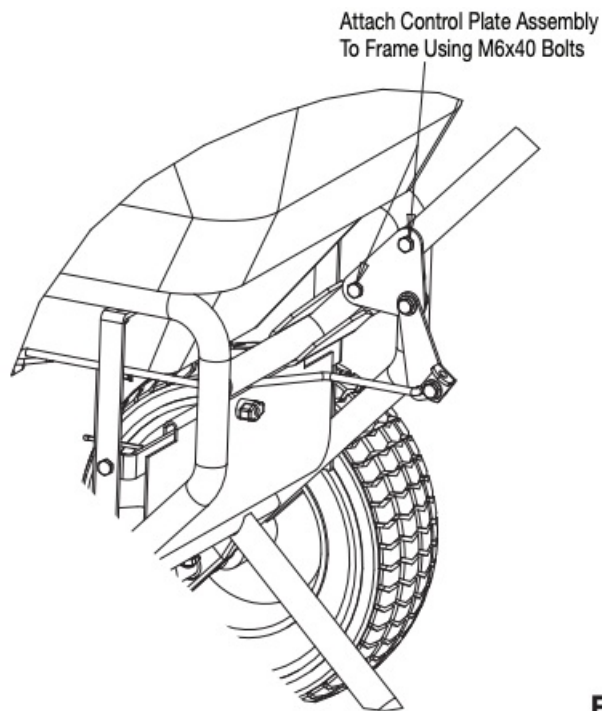
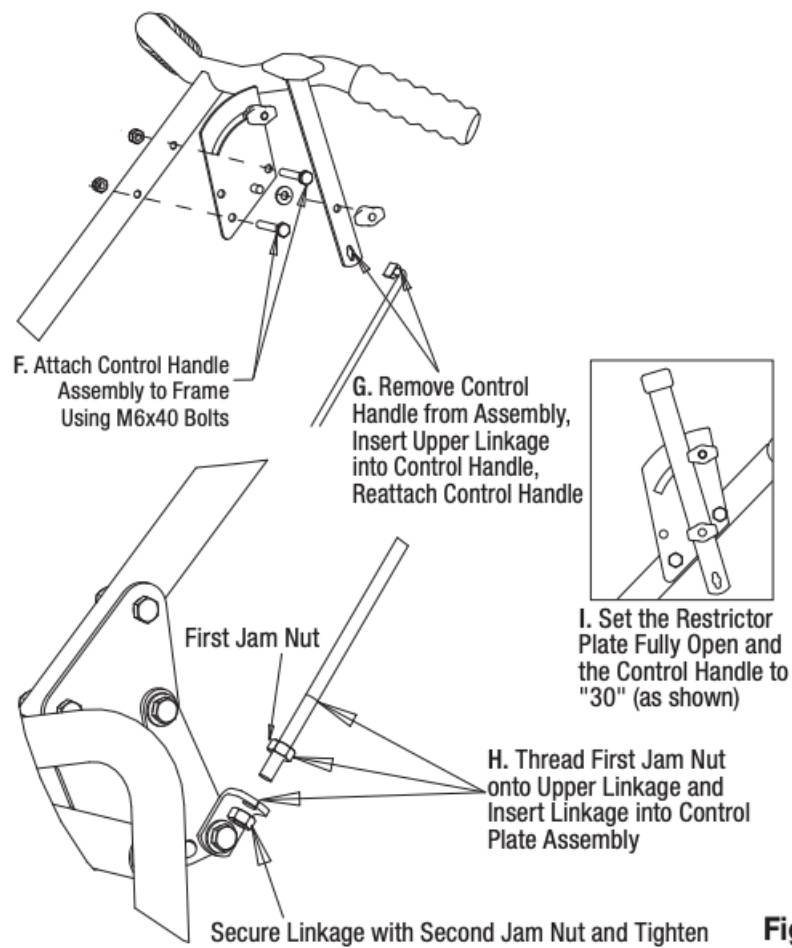

Fig. 5
Fig. 6
1.3 Attach Control Handle Assembly, Upper Linkage, & Rear Deflector – Figure 6 & 7
E. Attach the Linkage Plate Assembly and Handle to the Frame using two M6x40 bolts as shown (see Fig. 5 on next page). Figure 6 shows the lower linkage assembled (for reference).
Attach Control Handle Assembly, Upper Linkage, & Rear Deflector – Figure 6 & 7